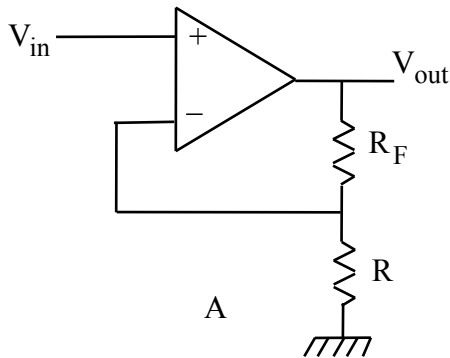

Figure 4.2 Non-inverting Amplifier
The two basic op-amp circuit configurations are shown in Figs. 4.2 and 4.3. Both circuits use negative feedback, which means that a portion of the output signal is sent back to the negative input of the op-amp. The op-amp itself has very high gain, but relatively poor gain stability and linearity. When negative feedback is used, the circuit gain is greatly reduced, but it becomes very stable, limited only by the temperature dependence of the resistors R and R_F . At the same time, linearity is improved and the output impedance decreases.
where the denominator is the difference between the voltages applied to the $+$ and $-$ inputs. We use the symbol G for the gain of the complete amplifier with feedback: $G \equiv V_{out}/V_{in}$. This gain depends on the resistor divider ratio $B \equiv R/(R+R_F)$. In feedback amplifier lore A is called the open loop gain, G is called the closed loop gain, and the product $A \cdot B$ is called the loop gain. You can see the reason for these names if you imagine opening the feedback loop in Fig. 4.2 by disconnecting the $-$ input.
The basic formula for the gain of feedback amplifiers is derived in FC, Section 12.5. From Fig. 4.2 we can see that:
2. (3 points) Calculate the values of low frequency gain G_0 (choose the correct version of the formula) and the bandwidth f_B for the non-inverting amplifier in Fig. 4.2. Consider the cases with $R_F = 100 \text{ k}\Omega$ for all, and $R = 100 \Omega$, $1 \text{ k}\Omega$, and $10 \text{ k}\Omega$. Also consider the voltage follower, with $R_F=0$ and $R=\infty$ (note there are four cases). Draw Bode plots for the open loop gain and the four closed loop gains on the same graph. Estimate the input and output impedances of the amplifier with $R_F = 10 \text{ k}\Omega$ and $R = 100 \Omega$ for 1 kHz sine waves.